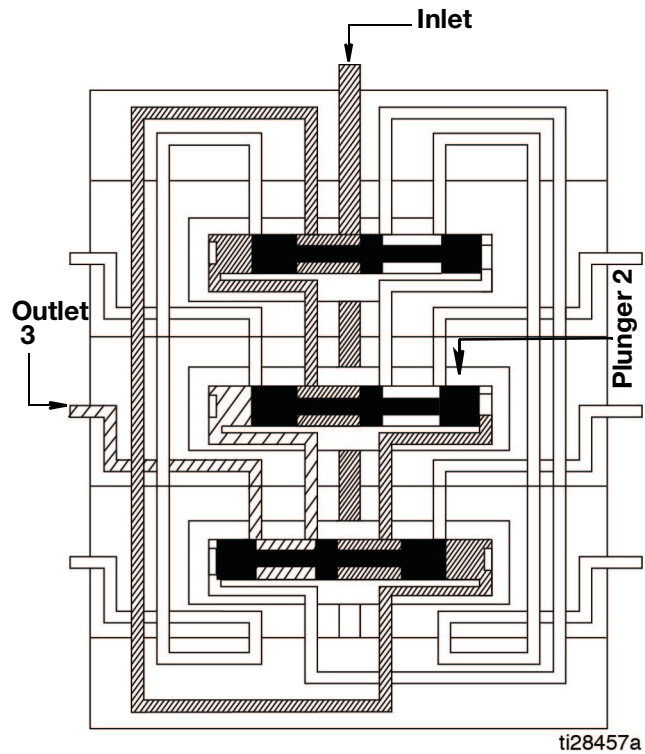

FIG. 14
2. Plunger 2 opens, delivering lubricant to Outlet 3 (FIG. 14).